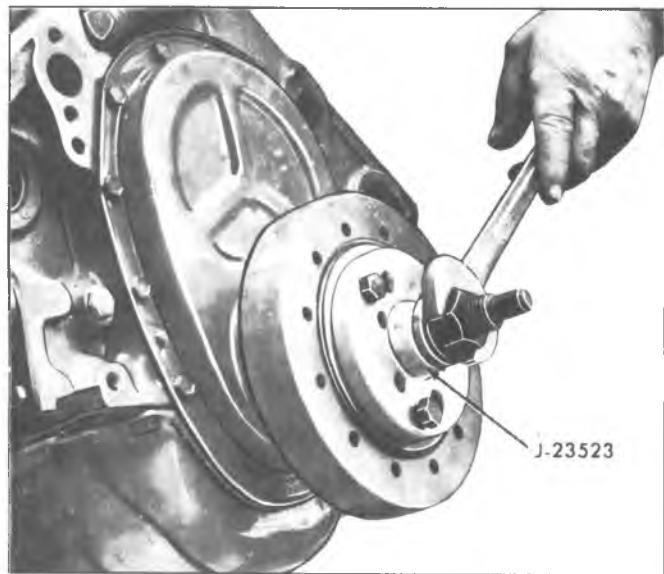

Fig. 17V—Installing Torsional Damper
- c. Pull damper into position as shown in Figure 17V.